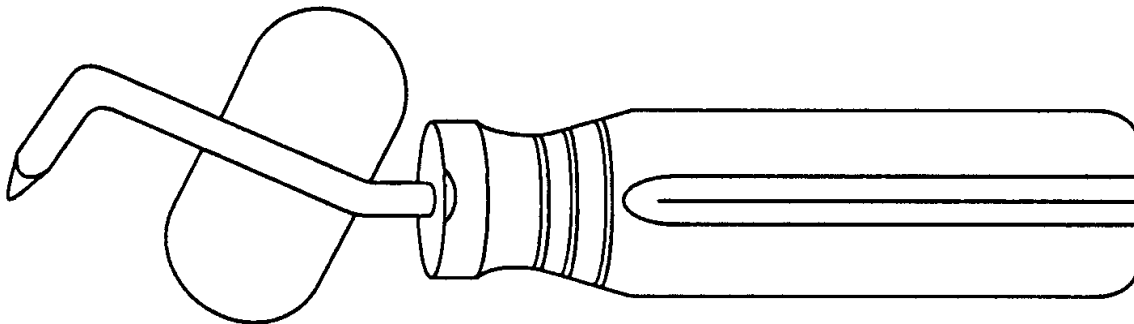

Figure 2 - Fishmouth Scraper
5.3.2 Fish Mouth Scraper (see Figure 2)